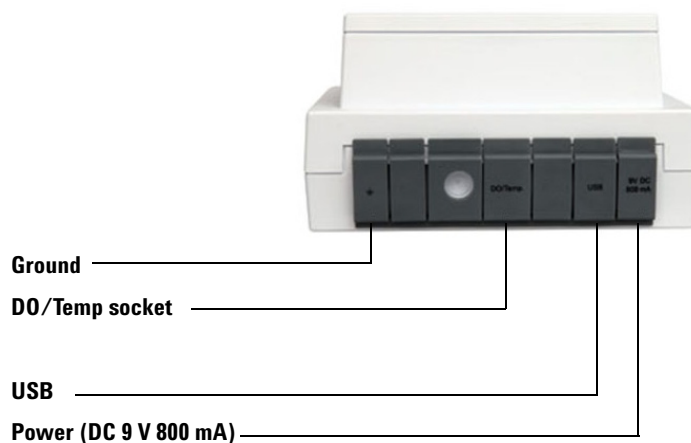

Figure 3 The back view of the 3200D Dissolved Oxygen Meter
- 4 Locate the **DO/Temp** probe socket on the back of the meter. Plug the DO probe connector (5190-3997) into the **DO/Temp** socket on the rear of the meter. See Figure 3.